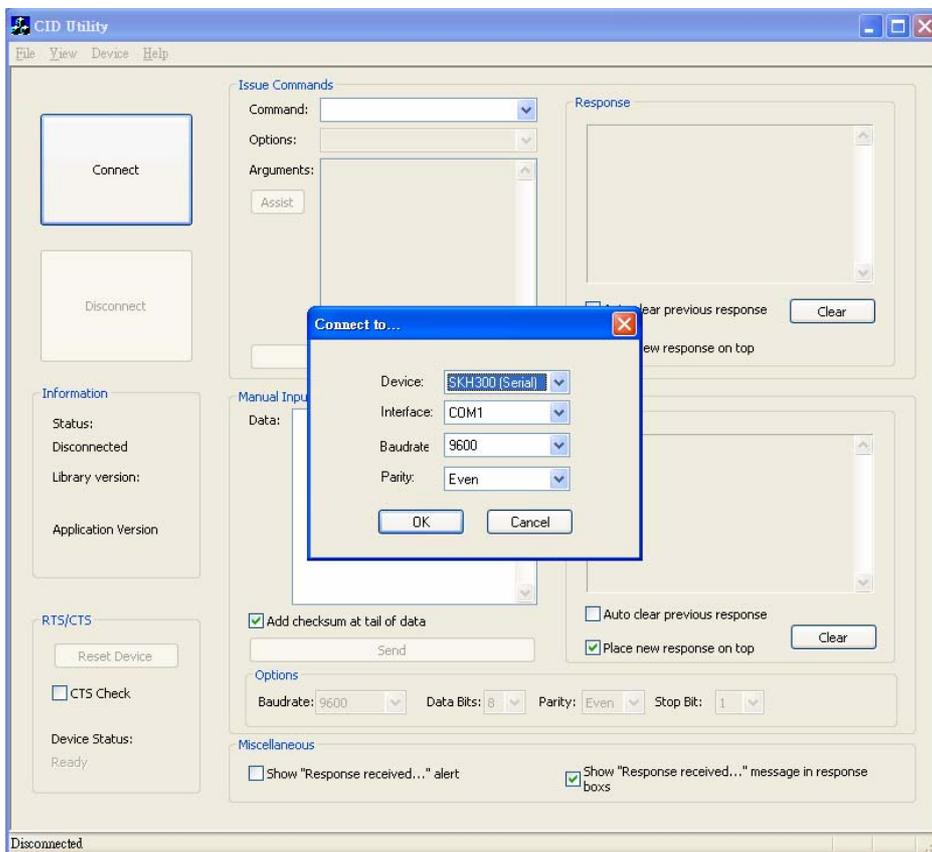
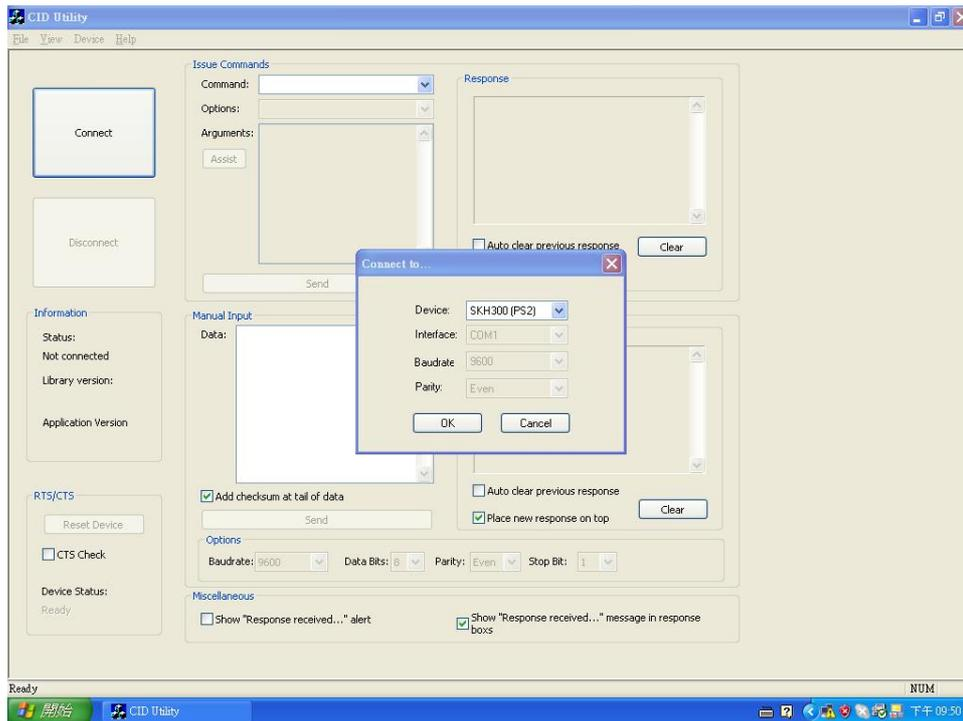

Fig 2
Fig 3
4.2 Press the “Connect” button, select the reader and interface type to be used. ex. Fig 2, the RS232C protocol 9600bps, Even parity and 8 data bit, COM1 port selected. ex. Fig 3 shown for SKH300 PS2 interface selected.